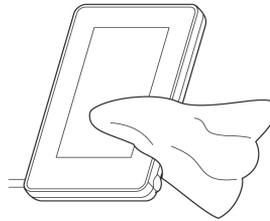

Figure 18.
3. Wipe the exterior of the product clean using a cloth moistened with disinfectant alcohol (Figure 18).